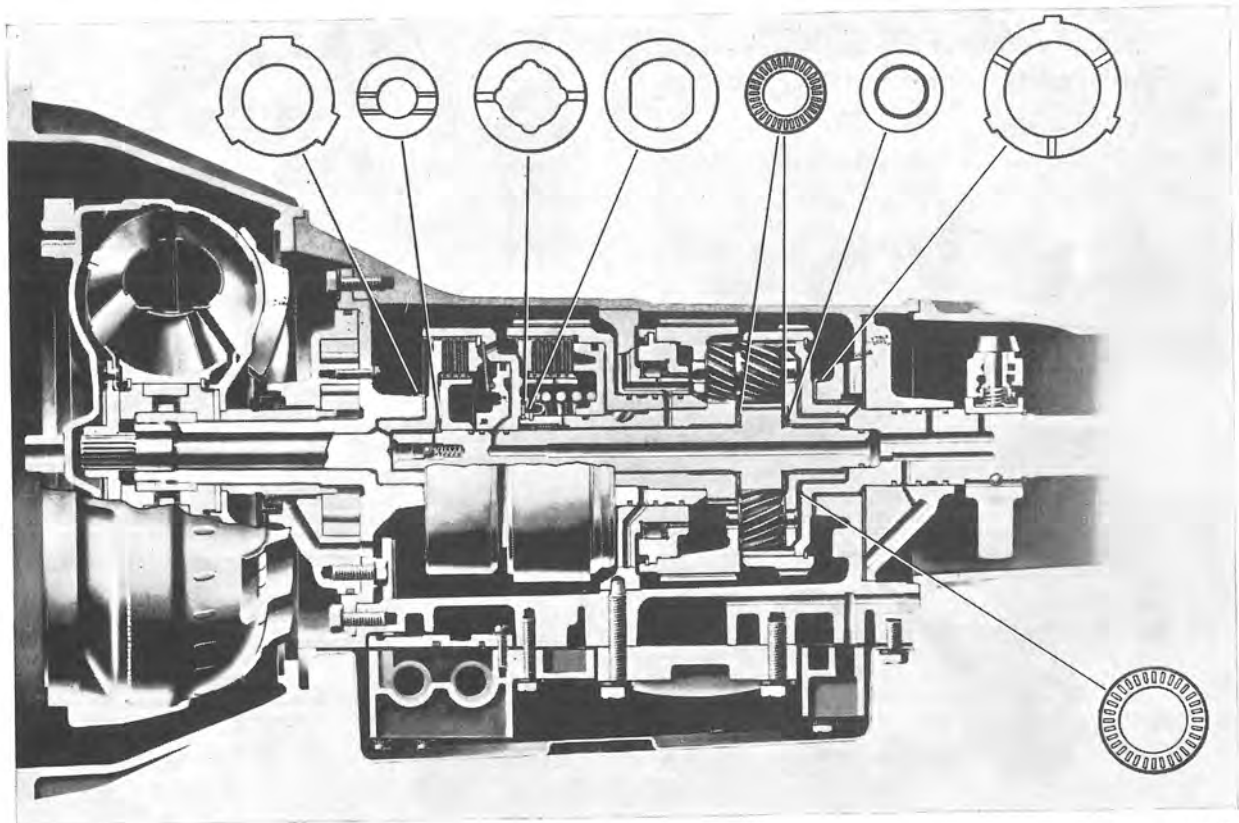

Fig. 4-99. Location of thrust washers
3. The thrust washer for driven shaft, see Fig. 4-99, is stuck onto the transmission case with vaseline. The driven shaft complete with ring gear is then installed into the transmission case.
17. Install the clutch assembly with its two different thrust washers in the gearbox, see Fig. 4-115. Be careful not to damage the oil sealing rings. For identifying the thrust washers, see Fig. 4-99.